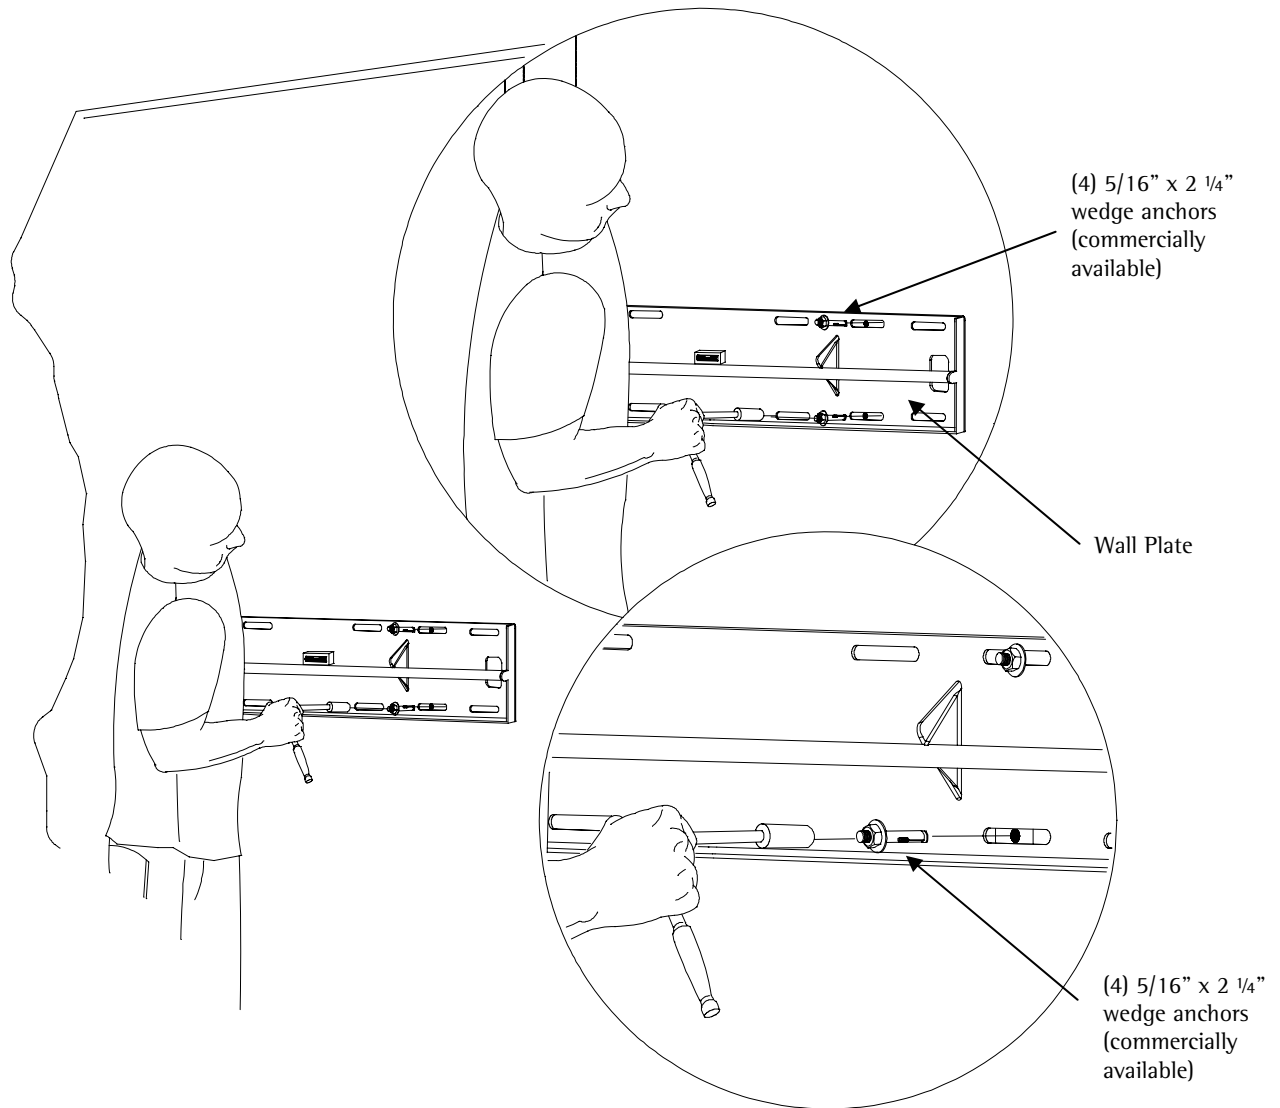

Figure 14
Mounting Surfaces (Figure 14)
10. Use a minimum diameter of 5/16" x 2 1/4" large concrete wedge anchors (commercially available) – (Figure 14).